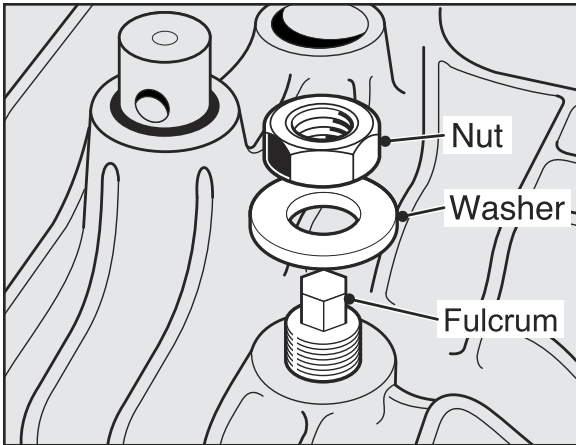

Fig. 16, Fulcrum Assembly
- From the reverse side of the Upper Case; Using a 17 mm wrench, install washer and nut to the Fulcrum. (Fig. 16)